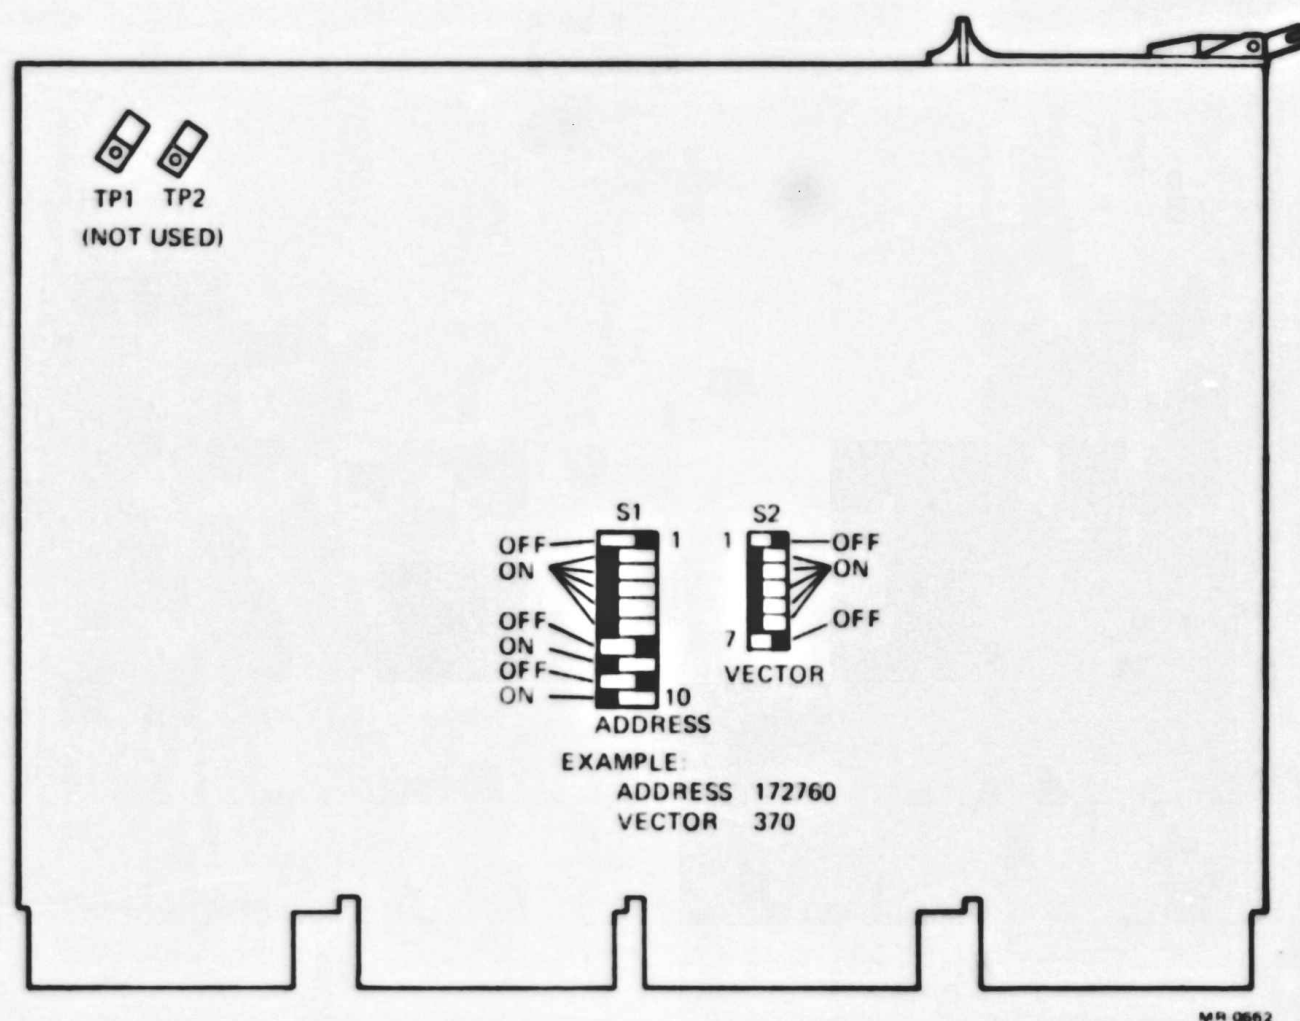

Figure 3-7 DMA Module (M8026)
Figure 3-7 shows the physical layout of the DMA module. This module communicates directly with the LSI-11 bus. Two fast-on tabs (TP1 and TP2) can be used to connect the CLK and the Schmitt trigger (ST), respectively; however, these tabs are not used on new NCV11 installations.
NCV11 Address and Vector Switches – Two switch packs on the DMA module are shown in Figure 3-7: S1 is for selecting the address of the NCV11; S2 is for selecting the NCV11's vector. A switch in the **on** position indicates a 1. S1 enables an address between 160020 and 177760 (in increments of 20). The recommended address for the NCV11 is 172760, as shown in Figure 3-8. S2 enables the setting of a vector between 010 and 770. The standard vector for the NCV11 is 370, as shown in Figure 3-9.